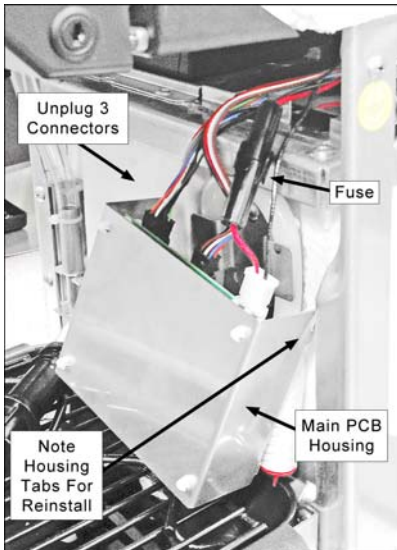

Figure 6-1 - Main PCB Housing Removed
- 3) Remove the Phillips screw securing the metal housing of the Main PCB (Fig. 6-1).